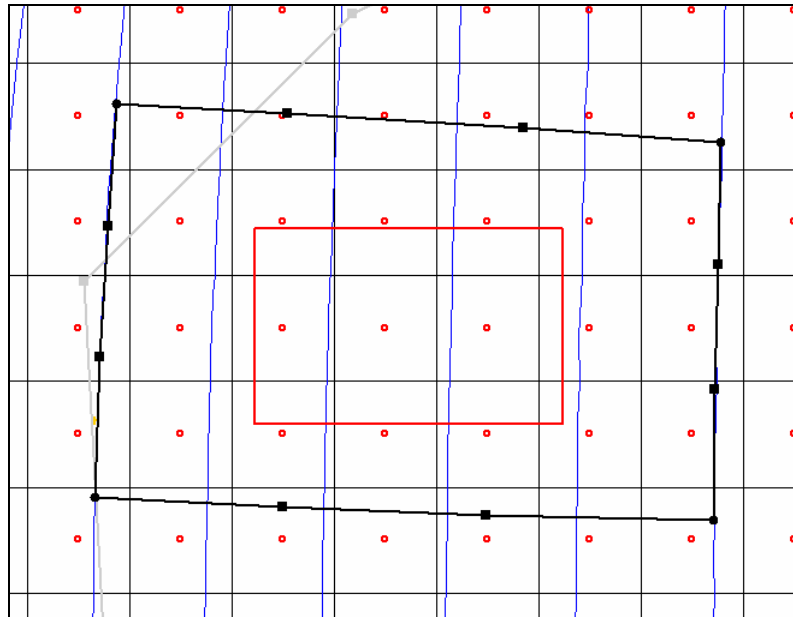

Figure 10-2 Arcs to be Created on Boundary of Local Model.
2. Create four arcs, two parallel to the contours, and two perpendicular to the contours as shown in Figure 10-2. Double click on the corners to end each arc.